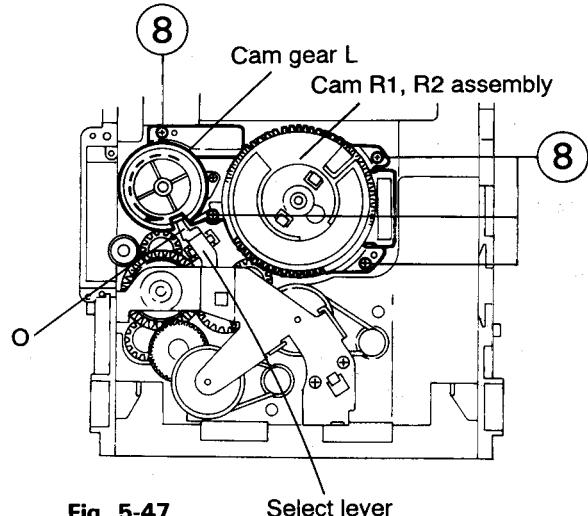

Fig. 5-47 Select lever
4. While turning the cam gear L, align the pawl (O) position of the select lever to the notch position (Fig. 5-47) on the cam gear L.
5. Remove the four screws (8) retaining the cam unit (cam gear L and cams R1/R2 assembly) (See Fig. 5-47).